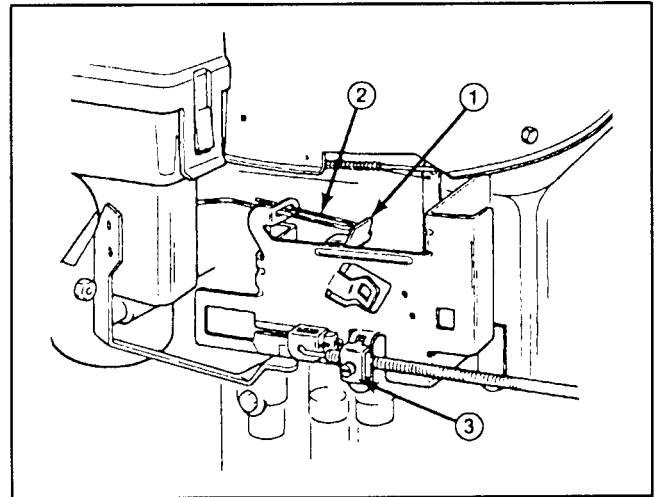

Figure 19
2. The throttle lever should be just touching the choke link (Fig. 19); if they are not in this position, an adjustment is necessary:
- B. Loosen the throttle cable clamp screw (Fig. 19) and move the control cable casing and wire until the throttle lever touches the choke link.